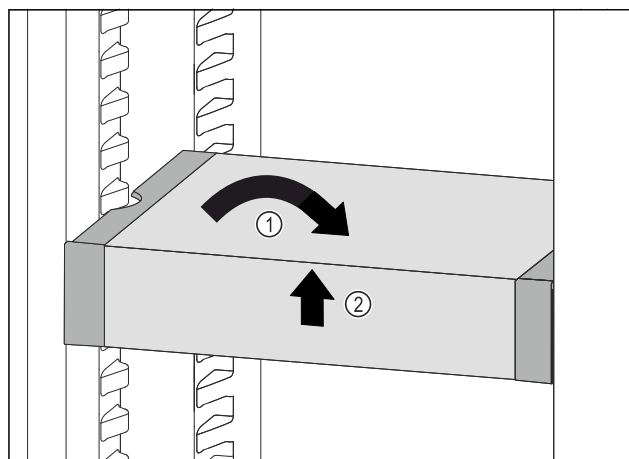

Fig. 60
- ▶ Set VarioSafe straight. Fig. 60 (1)
- Lift VarioSafe at the front. *Fig. 60 (2)*